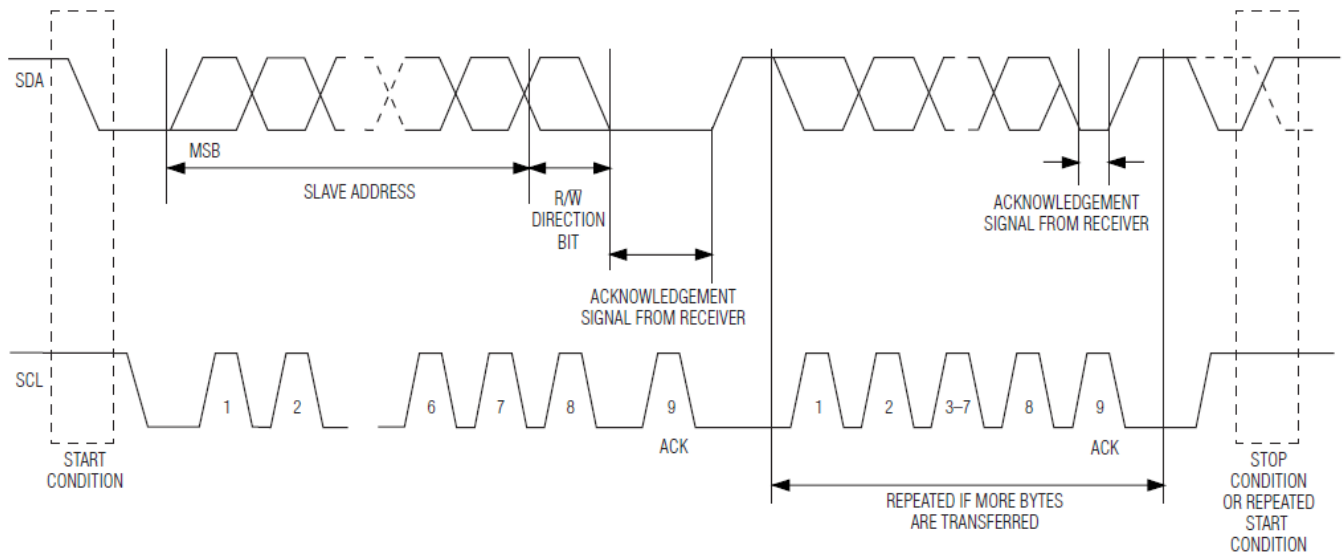

Figure 6. 2-Wire Data Transfer Protocol
The 2-wire serial-port interface supports a bi-directional data transmission protocol with device addressing. Connections to the bus are made through SDA and SCL. Timing diagrams for the 2-wire serial port can be found in Figure 6. Within the bus specifications, a standard mode (100 kHz clock rate) and a fast mode (400kHz clock rate) are defined.
- Data valid : The state of the data line represents valid data when, after a START condition, the data line is stable for the duration of the high period of the clock signal. The data on the line can be changed during the low period of the clock signal. There is one clock pulse per bit of data. Figure 6 detail how data transfer is accomplished on the 2-wire bus.
- START Condition : A high-to-low transition of SDA with SCL high is a START condition that must precede any other command. See the timing diagrams in Figure 6 for further details.